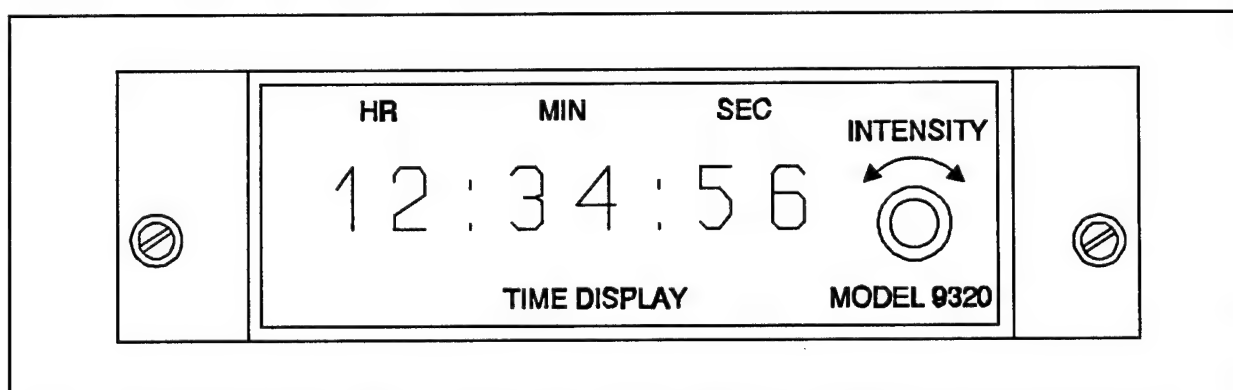

Figure 7-3. Range Time Display
A display for presenting range time (Figure 7-3) is located in each cockpit, on the center console above the RCP. This is a six-digit decimal display indicating UTC (Universal Time Coordinated) in hours (00-23), minutes (00-59), and seconds (00-59). This time is initially set into an on-board time code generator during Special Instrumentation (SI) preflight and will be available and current if DAS power is re-cycled.
A display for presenting range time (Figure 7-3) is located in each cockpit, on the center console above the RCP. This is a six-digit decimal display indicating UTC (Universal Time Coordinated) in hours (00-23), minutes (00-59), and seconds (00-59). This time is initially set into an on-board time code generator during Special Instrumentation (SI) preflight and will be available and current if DAS power is recycled.